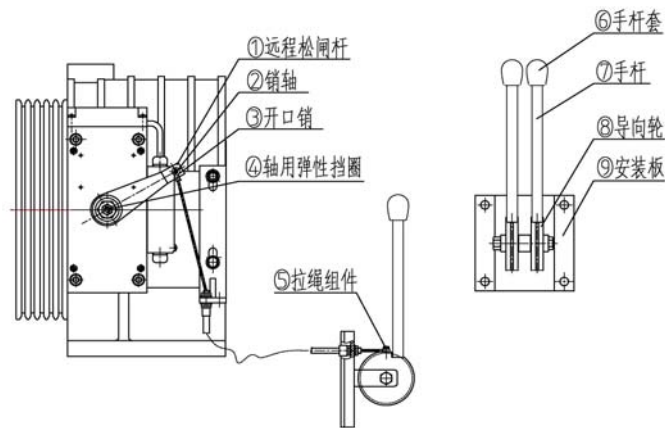

Fig.38 Remote manual brake release device control mechanism
This device is applicable to brake release of the remote brake of the traction machine not installed in a machine room. It is used to speed up the process of rescuing the elevator user who is entrapped in the lift car in an emergency. Manual remote brake is comprised of remote release rod①, pin②, split pin③, axial flexible retainer ring④, lanyard assembly⑤, hand rod sleeve⑥, hand rod⑦, guide wheel⑧ and installation wheel⑨, etc. The schematic map is shown in Fig.38 on P24.